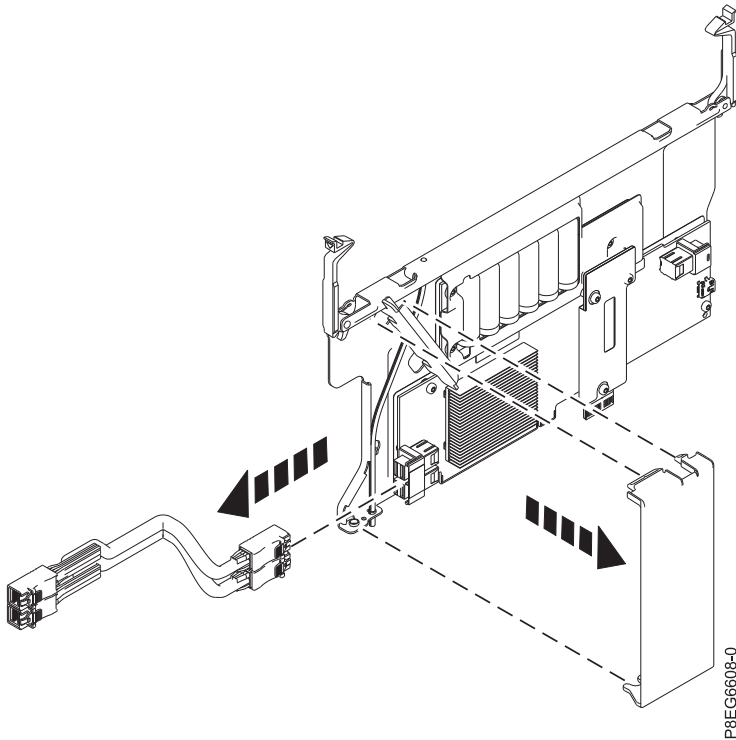

Figure 5. Removing the air flow cover from the PCIe3 x8 cache SAS RAID internal adapter 6 Gb that is installed in location P1-C15
10. If you are removing the SAS RAID internal adapter from location P1-C15, remove the air flow cover from the adapter. First press down on the top of the cover, then lift the bottom of the cover out of the hole in the SAS RAID internal adapter assembly. Set the cover aside for reuse on the replacement adapter. See Figure 5 on page 8.